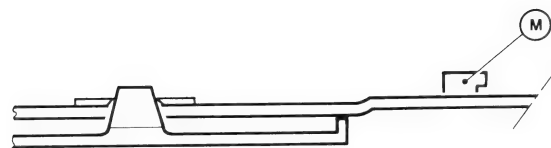

Figure 4.2.11a
- Set the hole of gauge on the spindle cone and the other extremity carriage side (figure 4.2.11a).